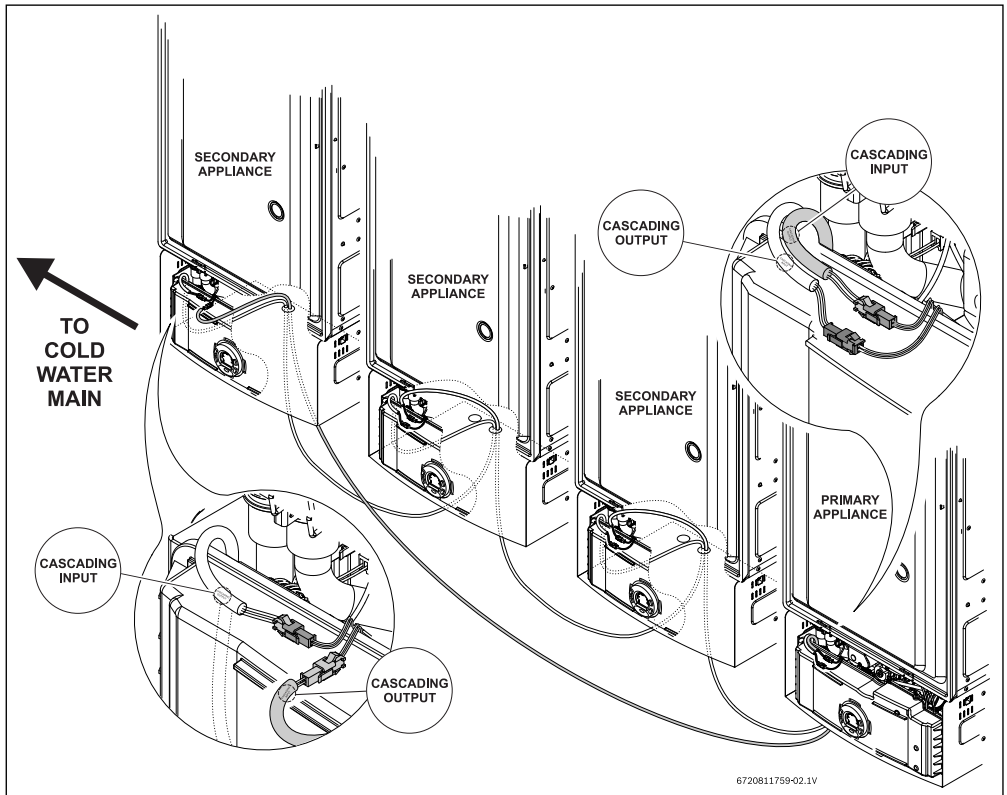

Fig. 2 Example of installation for: RTG 199HE, RTG 199ME
- ▶ Connect to the 'cascading input' connector of the secondary appliance (Fig. 2).